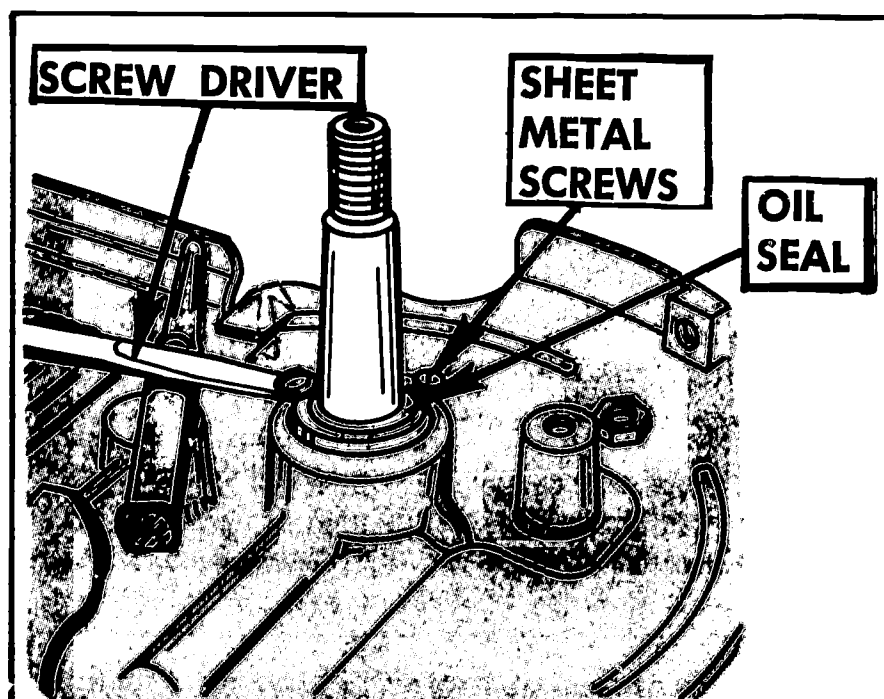

FIGURE 299. Removing a 1-piece oil seal.
4. *Remove the oil seal (Figure 299).*
a. If you have the **1-piece type** (Figure 299), proceed as follows:
- (2) Install 3/16" sheet-metal screws in each hole part way.
- (3) Pry the oil seal out with a screw-driver (Figure 299).